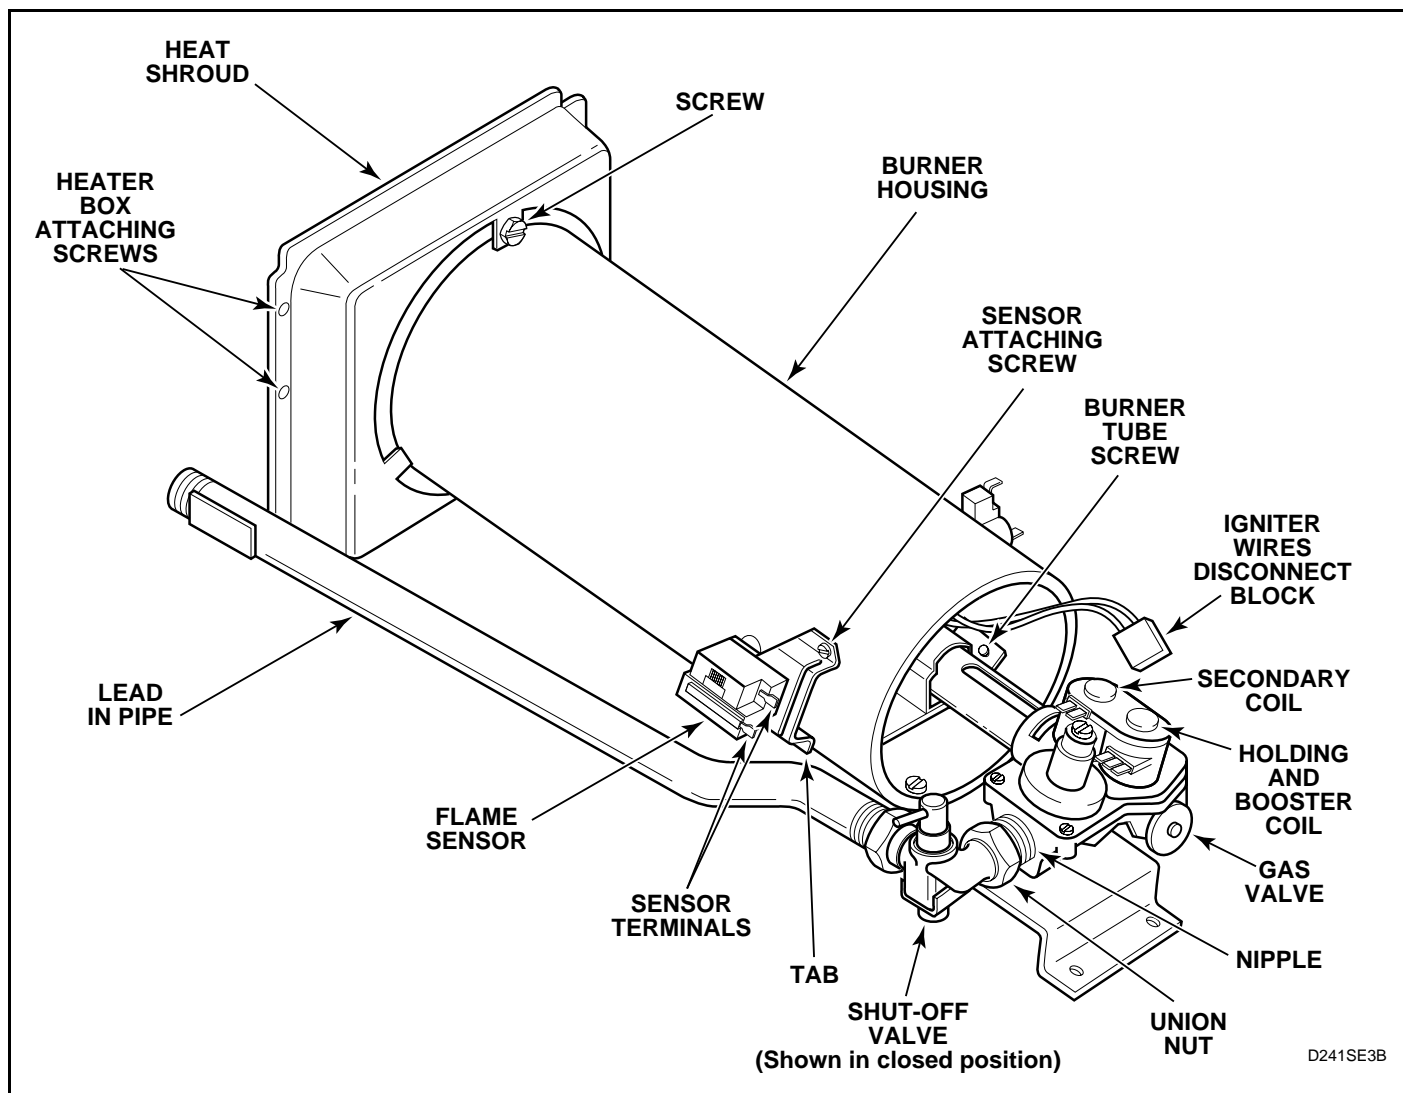

Figure 35
from gas valve coils at the quick disconnect blocks. See *Figure 35*.
- (4) Disconnect gas shut-off valve from gas valve at the union nut. See *Figure 35*.
- (5) Remove three screws holding valve and mounting bracket to base. See *Figure 35*.
- (6) Lift gas valve and mounting bracket from base. See *Figure 35*.
- (2) Gently move burner tube toward rear of dryer to disengage tab from slot on left side of burner housing. See *Figure 35*.
- (3) Carefully rotate burner tube and igniter **counterclockwise** so tab is at 8 o'clock position.
- (4) Move air shutter end of burner tube slightly to right and **CAREFULLY** remove burner tube and igniter assembly out through front of dryer.
- (3) Remove wires from flame sensor terminals. See *Figure 35*.
- (4) Remove screw holding flame sensor to burner housing. See *Figure 35*.
- Disconnect igniter wires at disconnect blocks, sensor wires from flame sensor terminals, and wires from gas valve coils at the quick disconnect blocks. See *Figure 35*.
- Gently move burner tube toward rear of dryer to disengage tab from slot on left side of burner housing. See *Figure 35*.
- Remove screw holding burner housing to heat shroud. See *Figure 35*.